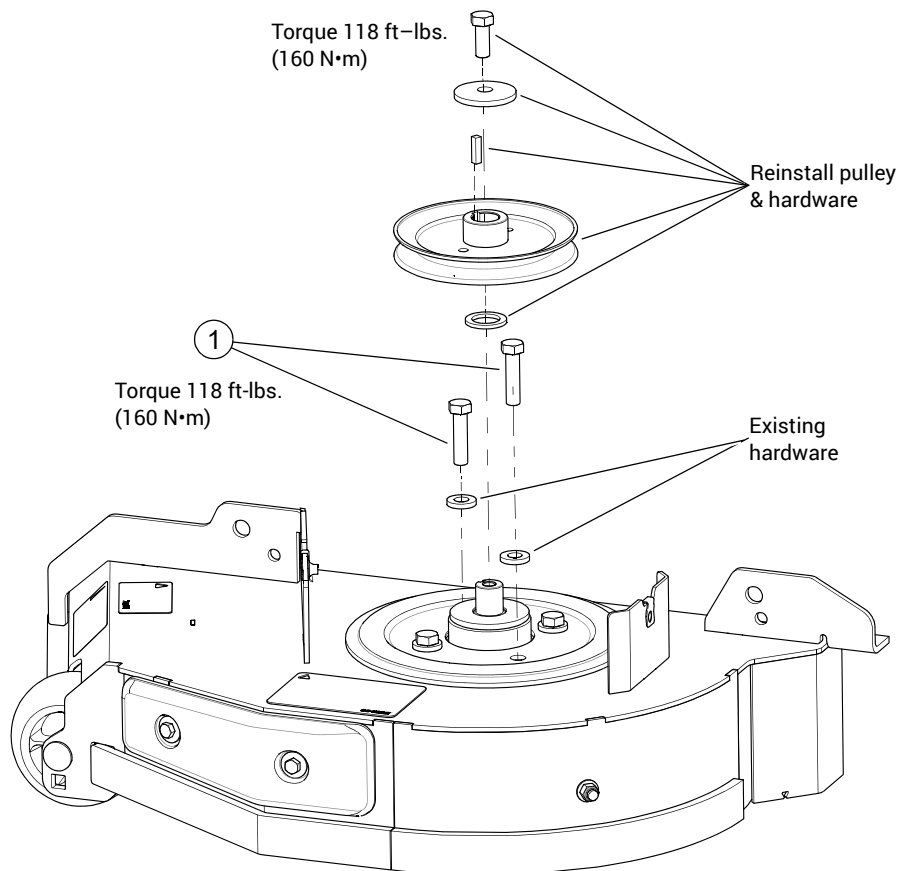

FIG. 2
7. Remove only two of the existing spindle cap screws at a time (to keep the spindle in place) and replace them with the provided cap screws. Reuse the existing flat washers. Fig. 1 & Fig. 2
12. Repeat steps 7 through 11 for the other two pulleys. Fig. 1 & Fig. 2